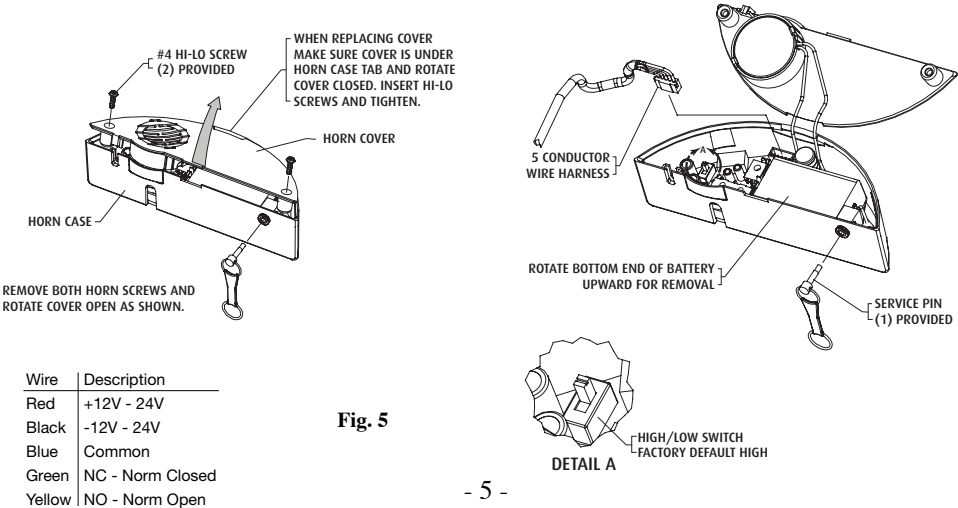

Fig. 5
12. Make any external connections for remote power or relay options if needed. (When using HORN option refer to Fig. 5 for wiring details.) **9V battery acts as backup power source when using remote power.**
- 6. (If desired) Change the Hi/Lo switch position (Fig. 5, Detail A).